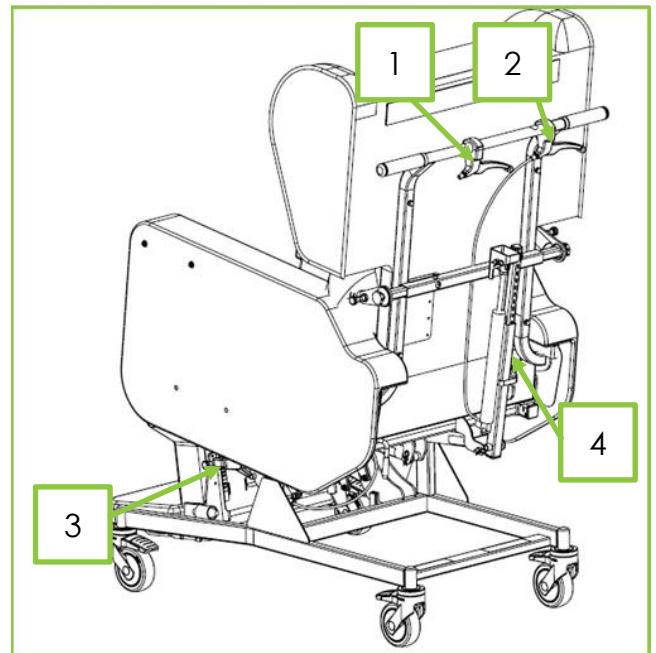
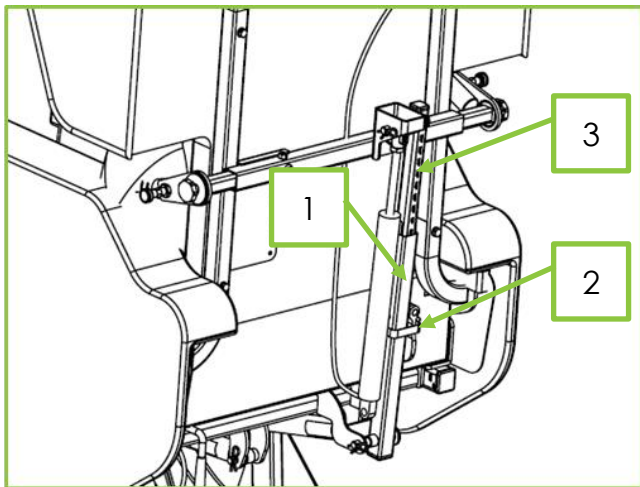

Figure 27 – Overview of controls
Figure 28
1. **Backrest** – The backrest can be adjusted between 90 degrees and 130 degrees from the seat angle; see page 5 for a diagram of this. The backrest lever (Fig 27, Item 1) is used to adjust this angle. The backrest is also fitted with a lockout slide (Fig 27, Item 4.) that can be used to restrict the use of the backrest angle adjustment.
1. **Tilt-in-Space** – The tilt-in-space position can adjust the seat angle from 7 degrees to 37 degrees from the horizontal position; see page 5 for a diagram of this. The Tilt-in- space lever (Fig 27, Item 2) is used to adjust this angle.
- Legrest** – The legrest can be adjusted between 75 degrees and 160 degrees; see page 5 for a diagram of this. The Legrest lever (Fig 27, Item 3) can be used to adjust this angle.
- Locate the locking lever (Fig 28, Item 2) on the side of the backrest lockout slide (Fig 28, Item 1).
- Pull the locking catch on the backrest lever, then pull the main lever (Fig 27, Item 1). Move the backrest to the desired measurement. The backrest angle measurement can be read off the scale at the top of the backrest adjustment slide (Fig 28, Item 3).
- Pull and hold the tilt-in-space lever (Fig 27, Item 2) and move the chair to the desired tilt-in-space angle.
6. Pull and hold the tilt-in-space lever (Fig 27, Item 2) and move the chair forward to the forward tilt position.
2. Locate the leg rest adjustment lever (Fig 27, Item 3).